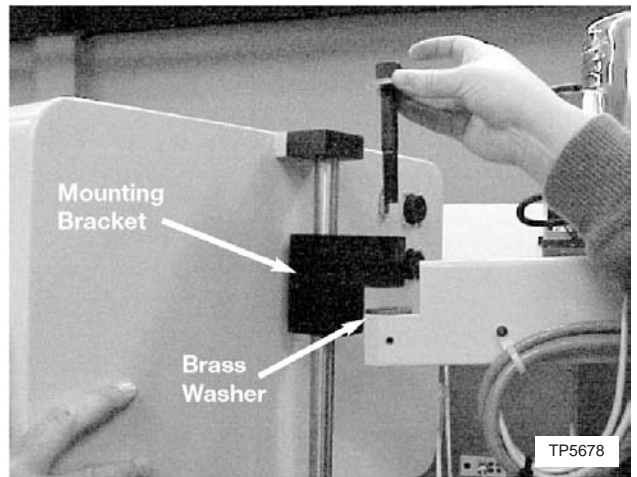

Figure 2.13 - Locating Washer and Bolt
5. Screw the locknut onto the end of the bolt and. tighten with a 3/4" box wrench so that the pendant is secure, but just loose enough to swivel. Use the hex key to hold the bolt and lock the nut with the wrench (see Figure 2.13).